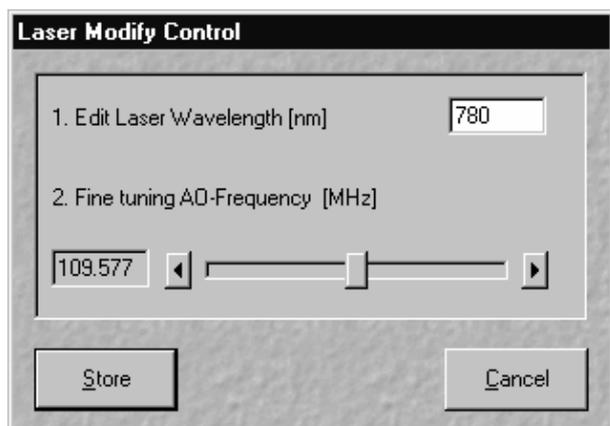

Fig. 8-21 Laser Modify Control window
- Click the **Modify** button. The **Laser Modify Control** window is opened (Fig. 8-21).
- Click the **Modify** button. The **Laser Modify Control** window is displayed. (Fig. 8-21).
- Click the **Modify** button. The **Laser Modify Control** window is displayed (Fig. 8-21).